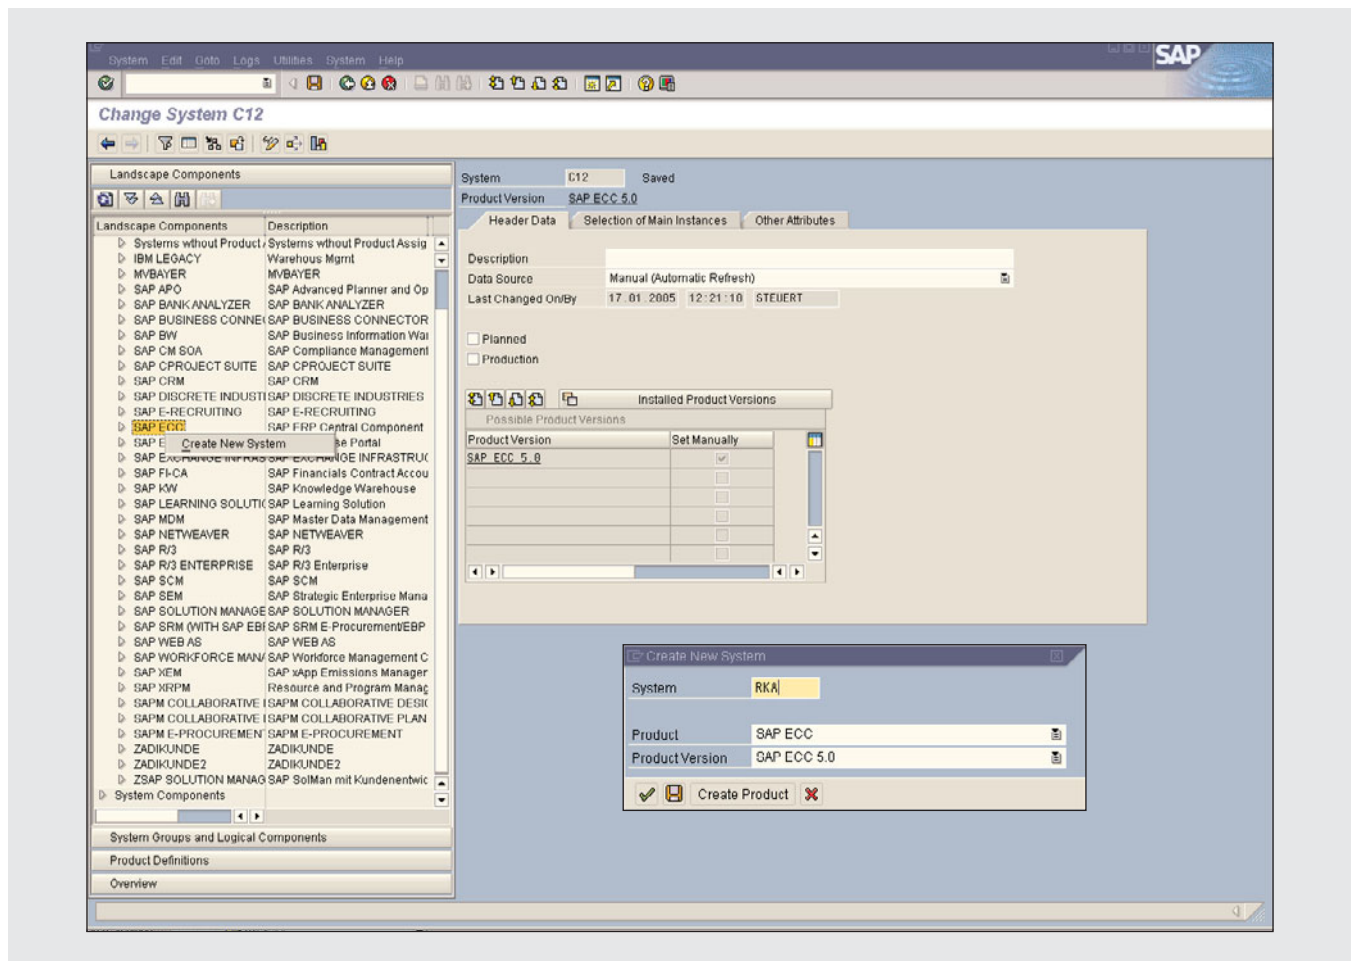

Figure 9 Manually defining a shell for the system in SMSY
1. In transaction SMSY (see **Figure 9**), open the Landscape Components view in the left-hand pane and then go to the Systems node, which displays a hierarchical tree of product categories for classifying registered systems. Right-click on SAP ECC and choose Create New System from the context menu.